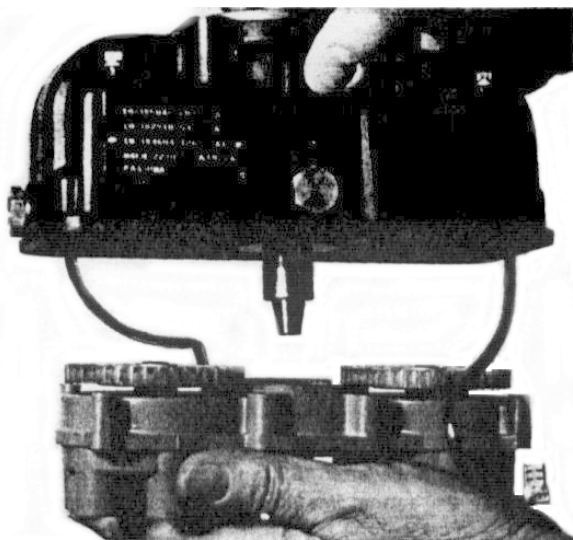

Figure 1.
- D. Prepare a soft surface for the distributor block to drop on or position hand to catch block when it falls from magneto shaft. Invert magneto so drive end is up (See Figure 1) and the distributor block/bearing assembly should drop from the shaft. **Do not side load magneto shaft** by gripping both housing and drive member. Acceptable magnetos should be reassembled in accordance with Bendix Overhaul Manual, Publication Form L-945.